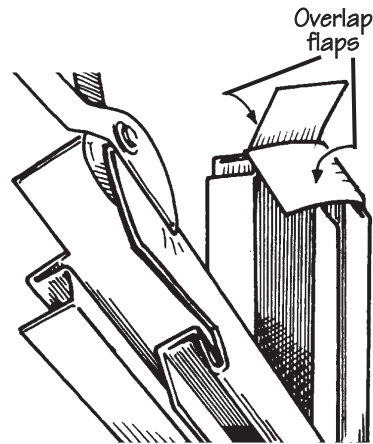

Figure 75.
- Corner posts on homes with a second-story overhang need to be capped by making the cuts shown (Fig. 75). Fold the flaps created over each other as indicated.